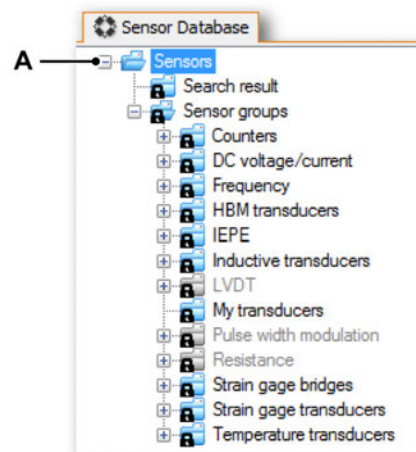

Figure 2.9: Sensor Database (Merged view)
- The merged view, in which the HBM Sensor Database and the User Sensor Database are merged in the same main group called Sensors (see Figure 2.9).